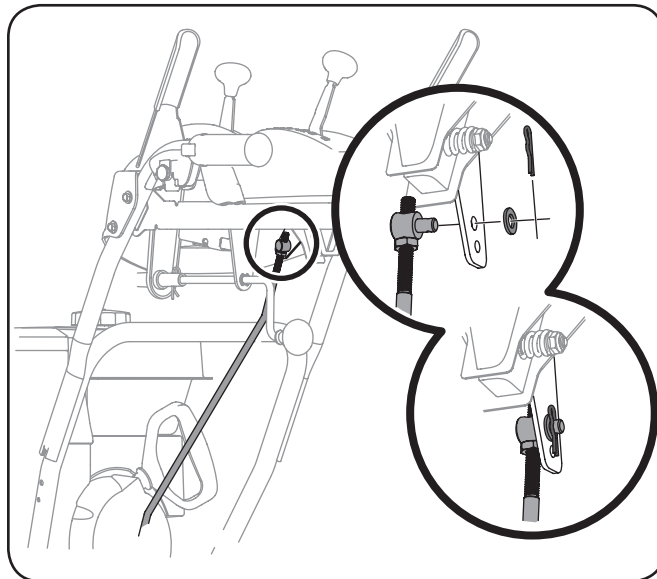

Figure 3-19
- Remove the cotter pin and washer from the ferrule on the end of the shift rod. See Figure 3-19 inset.